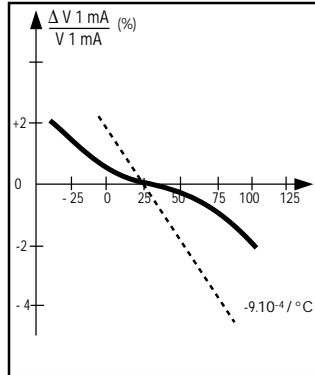

Figure 7
- The second one shows less variation and corresponds to the nominal varistor voltage region (Figure 7). The temperature coefficient of the varistor voltage at 1 mA is: